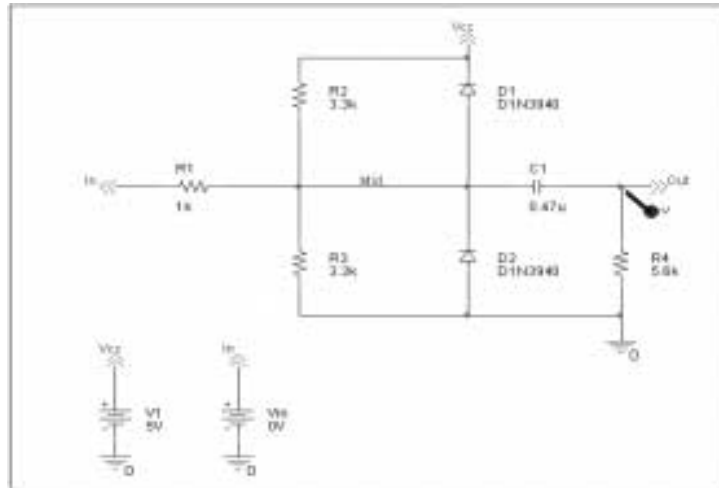

Figure 2-8 Clipper circuit with voltage marker on **Out**.
- Click to place a marker on net Out, as shown in Figure 2-8.